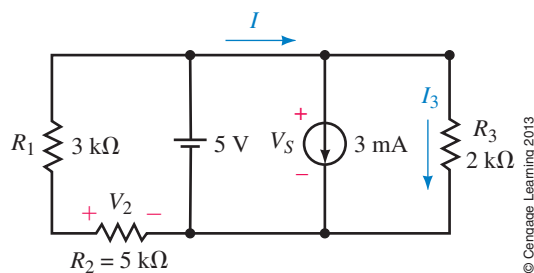

FIGURE 8–67
- For the circuit of Figure 8–68, find the currents I_1 and I_2 .